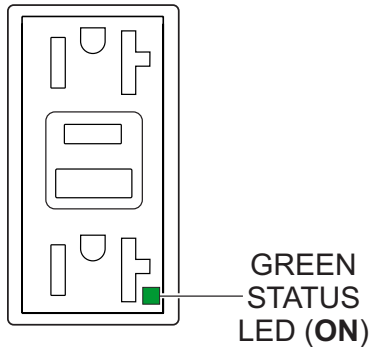

Figure 65. GFCI Receptacle (ON)
3. Verify that the status LED (Figure 65) on the corresponding GFCI receptacle is **ON (GREEN)**.